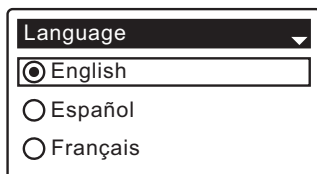

FIG. 16
- 1. LANGUAGE** If the desired language already has a black dot next to it (See Figure 16), go to Step 2. Otherwise, press the softener’s DOWN (▼) or UP (▲) buttons to scroll to the desired language, then press the SELECT (○) button to choose it.